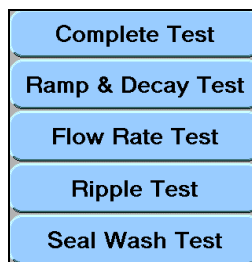

Figure 3
- 4.5 Select **Complete Test** from the Test Menu. See Figure 3.